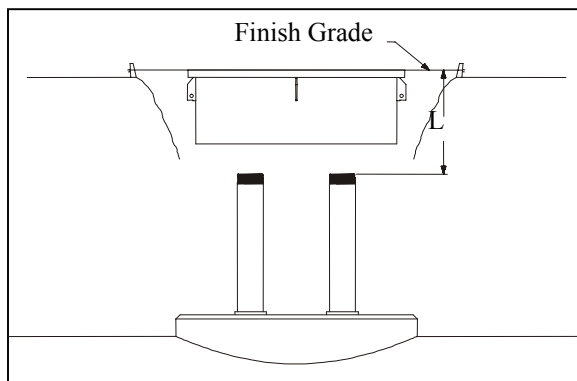

Figure 2
2. Set multi-port manhole assembly (skirt, ring, and cover) to the final grade position. (See Figure 2.)
Note: Add an extra 3-1/4" when using an OPW FSA-400 Face Seal Adaptor. (See Figure 2.)